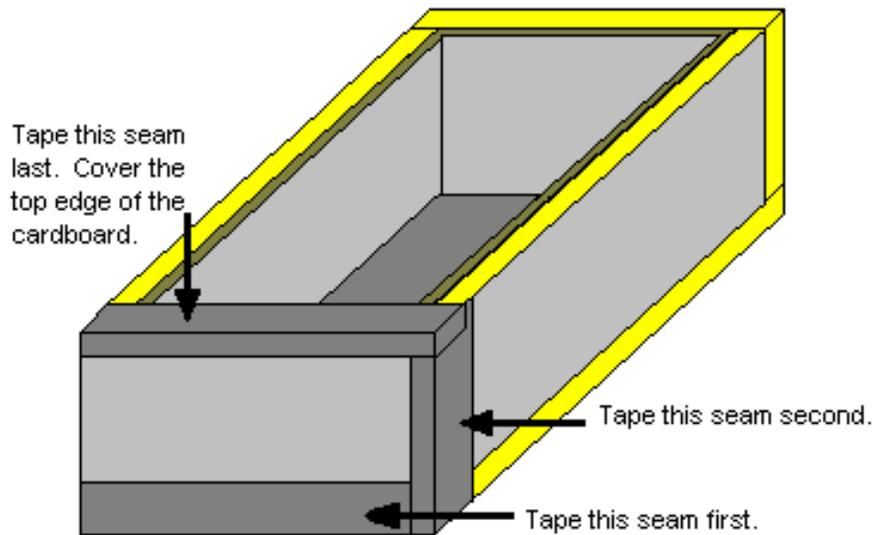

Figure 9. Tape the sheathing in place with aluminum foil tape.
4. Permanently attach the sheathing to the outside of the box by taping in place with the aluminum foil tape. Figure 9 illustrates where to tape the pieces in place.